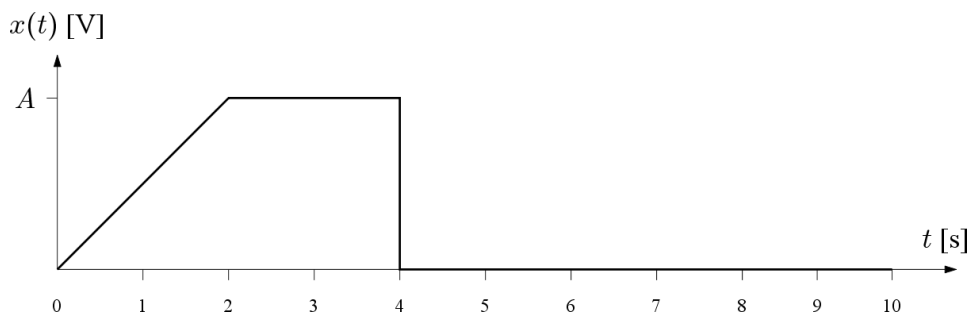

Figure 1.2: Input signal  $x(t)$  with amplitude  $A$ .
- 3 Apply graphical convolution to determine the output  $y_A(t)$  of System A caused by the system input signal  $x(t)$  plotted in Figure 1.2; set the amplitude  $A$  to 5 volts.
For this and the subsequent hardware measurements, set  $R = 10\text{ k}\Omega$  and  $C = 0.1\text{ }\mu\text{F}$ , and change the time scale unit of the plot in Figure 1.2 on the facing page to milliseconds, i.e., the time span of the signal is 10 ms. These values permit direct comparison to your analytical results provided that you interpret your earlier plots as functions of time in milliseconds.